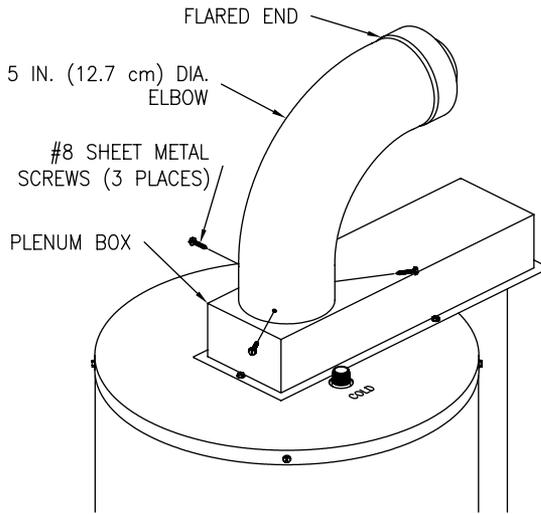

Figure 6
7. Place the straight end of the five (5) inch (12.7 cm) diameter elbow over the three (3) inch (7.6 cm) diameter elbow and plenum collar until seated on top of the plenum box. Make certain that the five (5) inch (12.7 cm) diameter elbow is oriented in the same direction as the three (3) inch (7.6 cm) diameter elbow and both are oriented in the correct direction. Drill three (3) 1/8 inch (3.0 mm) diameter holes, 120° apart, through the five (5) inch (12.7 cm) diameter elbow into the plenum collar. Fasten with three (3) #8 sheet metal screws (supplied) (See Figure 6).